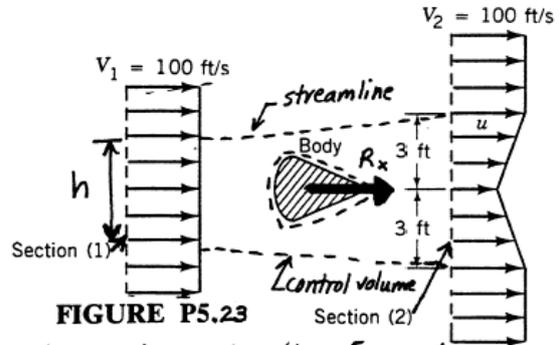

FIGURE P5.23
5.23 The results of a wind tunnel test to determine the drag on a body (see Fig. P5.23) are summarized below. The upstream [section (1)] velocity is uniform at 100 ft/s. The static pressures are given by $p_1 = p_2 = 14.7$ psia. The downstream velocity distribution which is symmetrical about the centerline is given by
where u is the velocity in ft/s and y is the distance on either side of the centerline in feet (see Fig. P5.23). Assume that the body shape does not